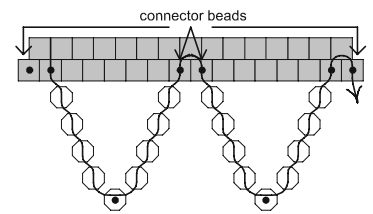

Fig. 2
2. With the needle extending from the bottom of what will be the second of the two connector beads on the brick stitch beaded foundation, pick up the beads (an odd number) for the first swag of the growth row. In Figure 2, each swag in the growth row consists of nine beads.
- When the last swag has been added, bring the needle through beads of the first swag until it is extending from the center connector bead. In the sample shown in Figure 2 you would go through the first five beads.